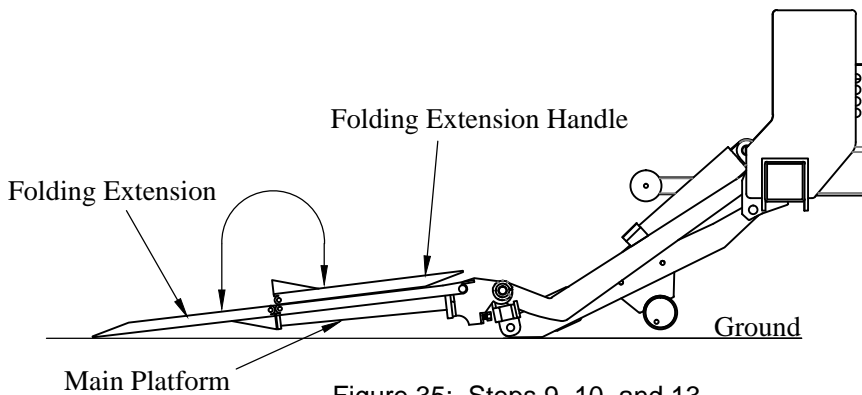

Figure 35: Steps 9, 10, and 13.
- Stand off to the side and unfold the platform folding extension (Figure 35).
- To close the platform, stand to the side of the platform, not under or behind the platform. With the liftgate lowered, close and lock the platform cart stops, if so equipped, then fold the folding extension by lifting on the handle (Figure 35).